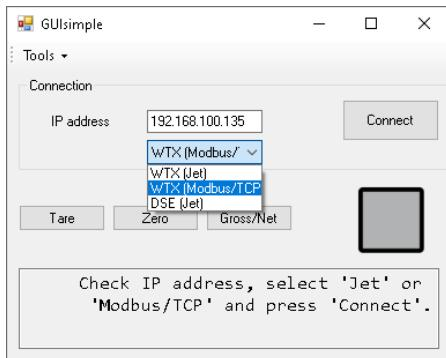

Fig. 6.5 Entering the start parameters
- Enter the IP address of the weighing terminal and the connection type (Fig. 6.5).